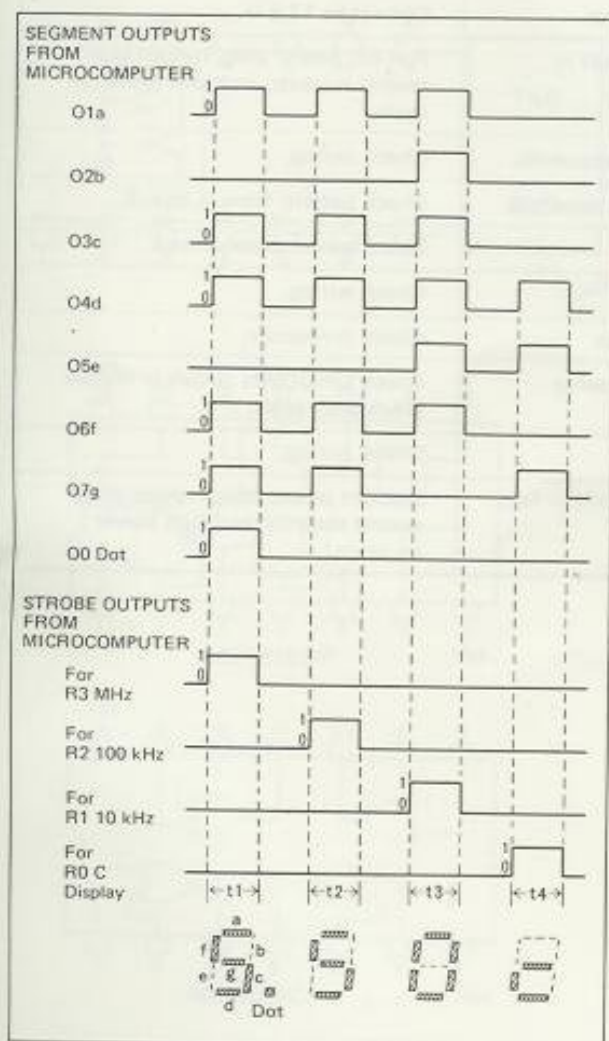

Fig.7
- \* Levels when 145.50C is displayed are shown in Fig. 7.
- \* Per the above, Fig. 7 signals are repeatedly applied to O0-O7 terminals, firing each segment.